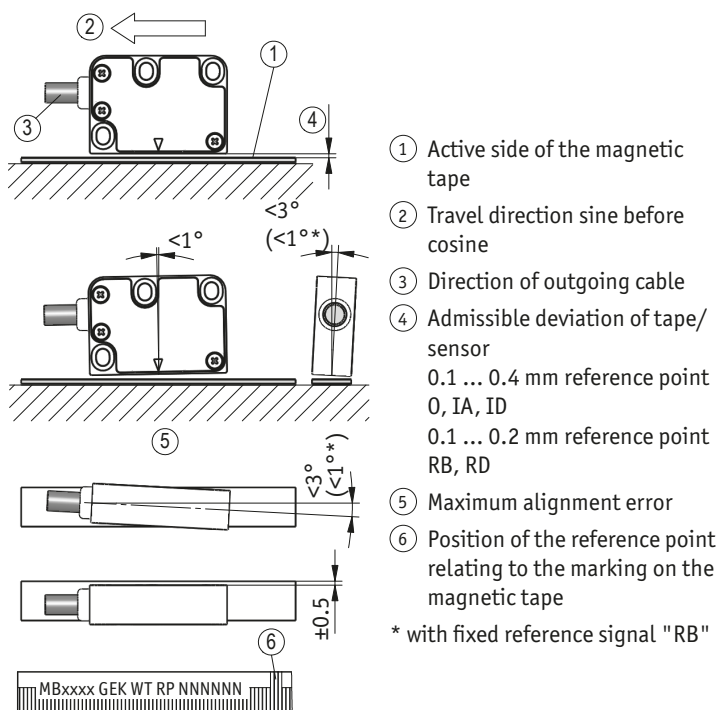

Fig. 6: Definition of the counting direction with magnetic tape and assemblage sensor / magnetic tape, gap measure, tolerances
- Take care that the magnetic sensor is aligned correctly in order to ensure optimum sensing (see Fig. 6).
- The distance tolerances were not observed over the whole measuring length (see Fig. 6).
- The magnetic sensor has been mounted with the active side turned away from the band (see Fig. 6).
- Magnetic sensor has not been aligned according to Fig. 6.